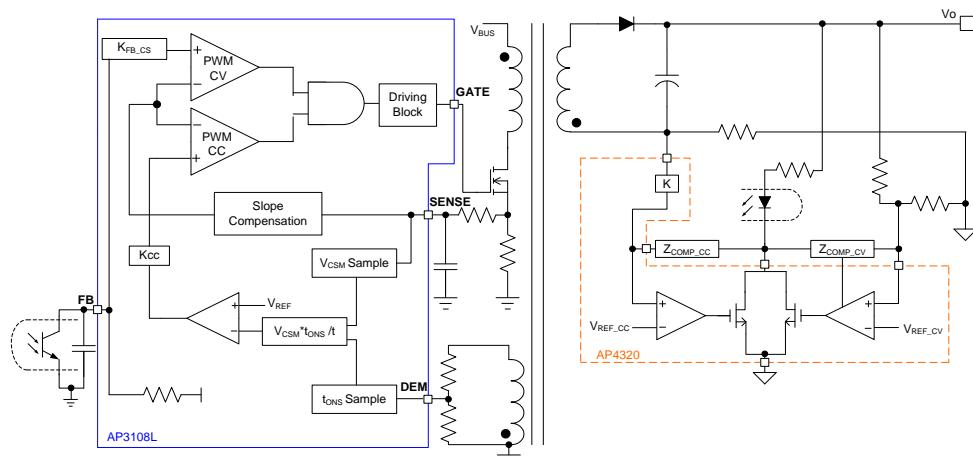

Figure 1
Figure 1 describes how the AP3108L and AP4320 work together to achieve constant voltage (CV), constant current (CC) and primary CC control. At secondary side, the sensed output voltage or output current signals are compared with the corresponding reference V_{REF_CV} and V_{REF_CC} in AP4320. The inner CV and CC amplifier combine with an external compensation network to generate an amplified error signal and transfer to the primary side FB pin through the opto-coupler. It's noted that only one amplifier works at one moment between CV and CC amplifier. The scaled FB voltage comparing with the SENSE voltage after slope compensation will turn off primary switch and determine the duty cycle.